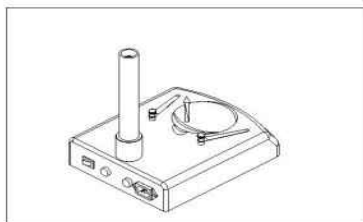

Fig.11
- 1) Press the stage on the sunken place then the other side will be lifted. (Fig.11)